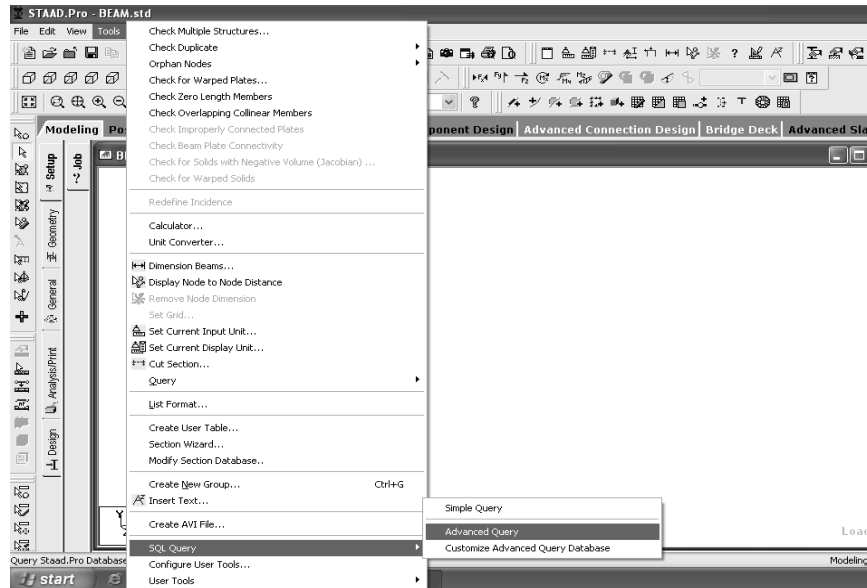

Fig .5.1.2
- Select Tools >SQL Query>Advanced Query for STAAD Pro version 2006 & higher (fig.5.1.2).